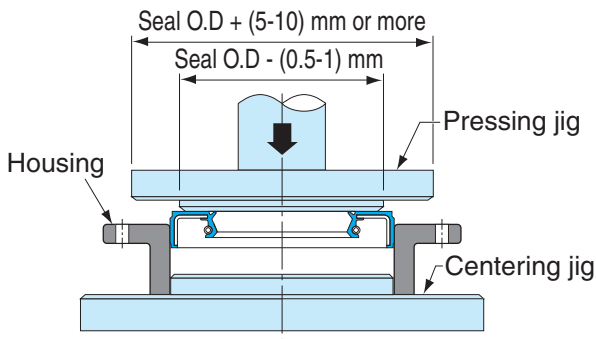
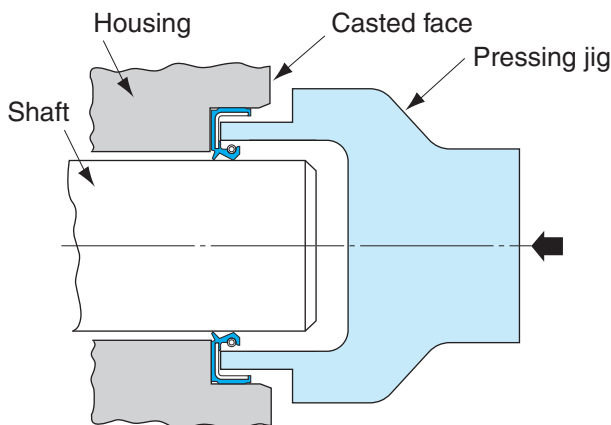

Fig. 1.7.4 Recommended seal press-fitting jigs
Fig. 1.7.5 Seal press-fitting jig for shouldered housing bore in the opposite direction
- 6) When seal is pressed into housing bore, use pressing jig as shown in Fig. 1.7.4. When press-fitting an oil seal into the housing bore in the opposite direction, use the pressing jig as shown in Figs. 1.7.5 and 1.7.6.
Seal press fit at a slant may cause the fit surface to have tear or scuffing and leakage. To ensure good sealing performance, seals need to be mounted at right angles to shafts. For right angled mounting, press the seal down thoroughly to reach the housing shoulder (Fig. 1.7.5).